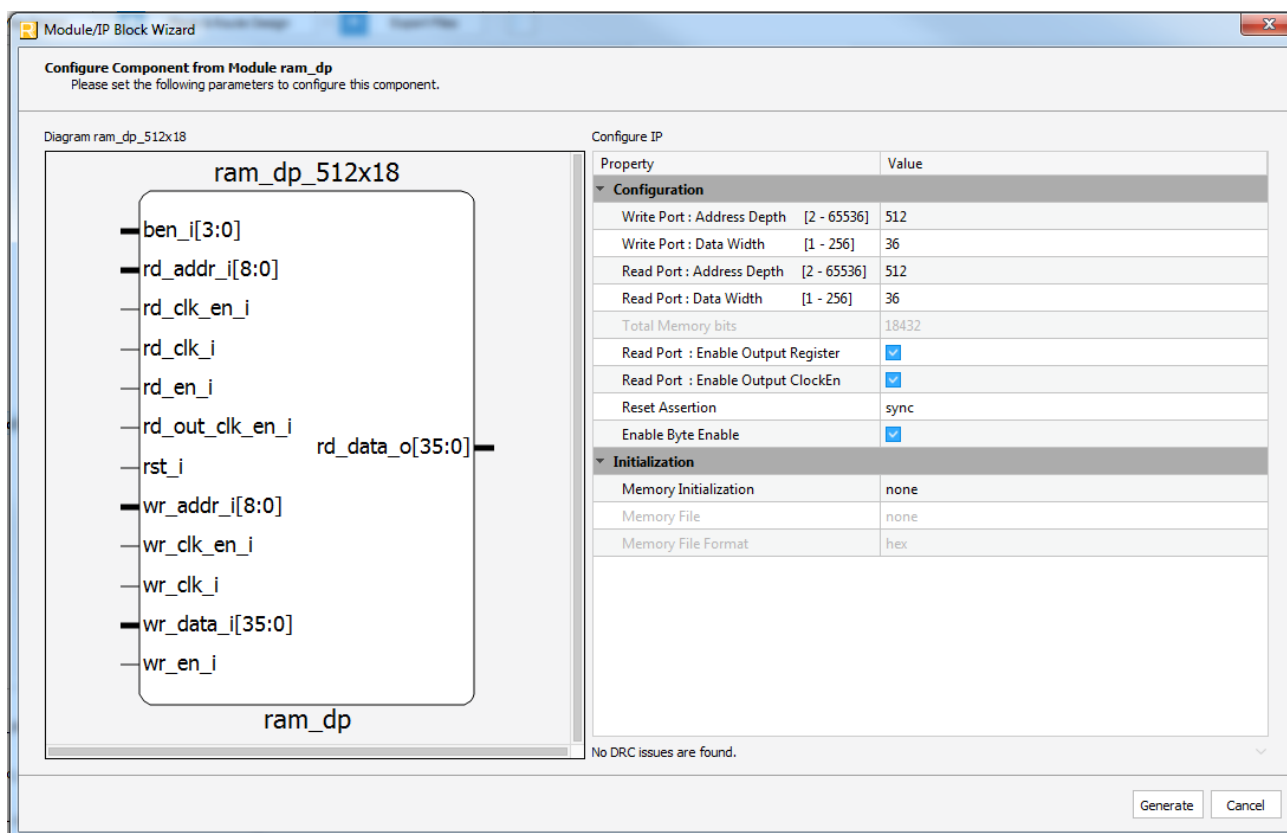

Figure 2.4. Example: Generating Pseudo Dual Port RAM (RAM_DP) Module Customization – General Options
4. Customize the EBR-based DPRAM in the **Module/IP Block Wizard** window as shown in Figure 2.4.